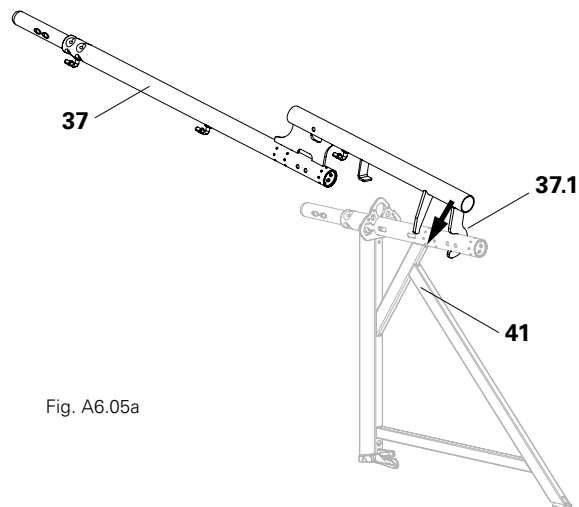

Fig. A6.05a
1. Turn the Protection Wall Post EPS-2 at an angle and hook the fork (**37.1**) into the bottom tube end of the console bracket (**41**). (Fig. A6.05a)